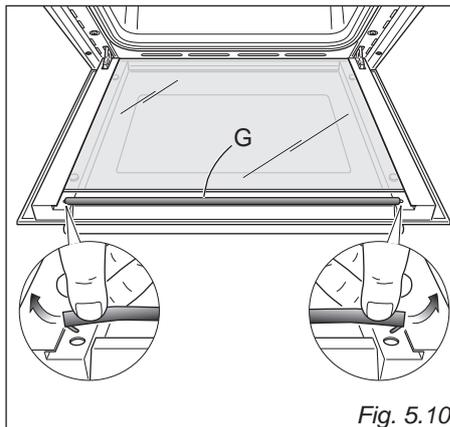

Fig. 5.10
- Remove the seal "G" by unhooking the no. 2 fixing hooks (fig. 5.10).